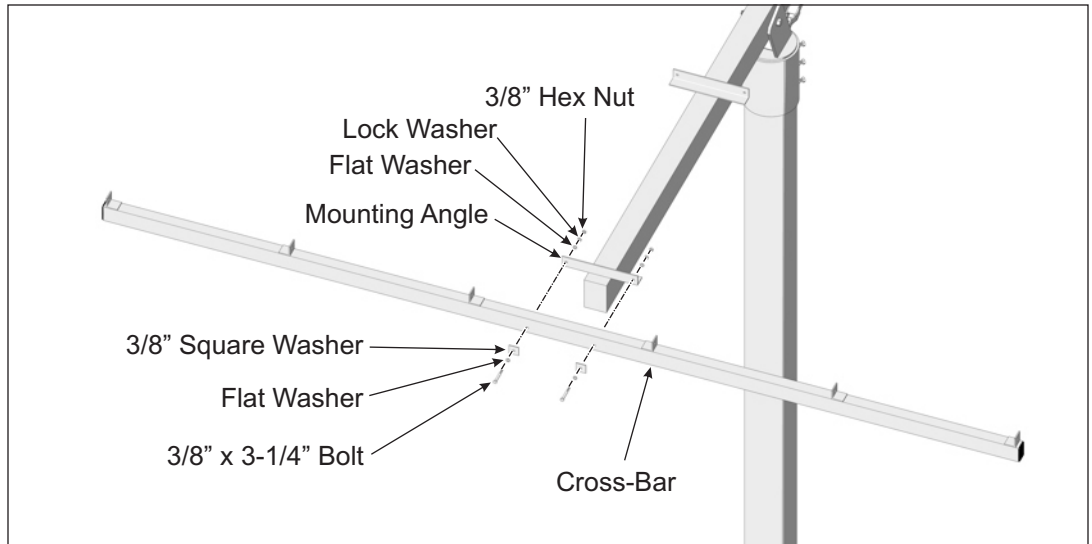

Figure 3-2: Installing Cross-Bars to Strongback
- A. Starting at the south location, position the Cross-Bar on the outside of the mounting angle of the Strongback. Align the mounting holes and secure using 3/8" flat and square washers along with the 3/8" x 3-1/4" bolts and lock washer placing the square flat washer against the Cross-Bar. Tighten hardware and **Torque to 30-32 ft.-lbs.** (See Figure 3-2)